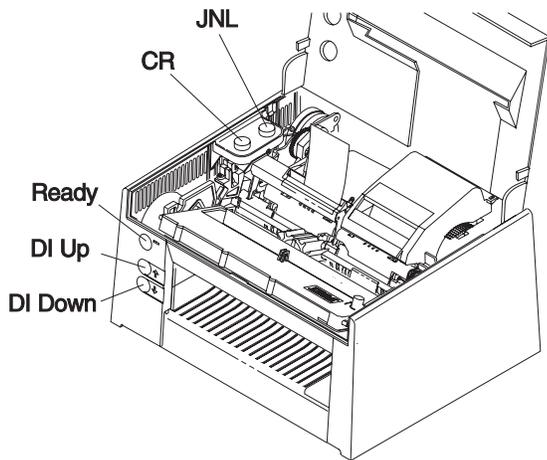

Figure 6-9. Printer Buttons
– Press the CR button. See Figure 6-9. The voltage should drop to less than +0.5 V DC.